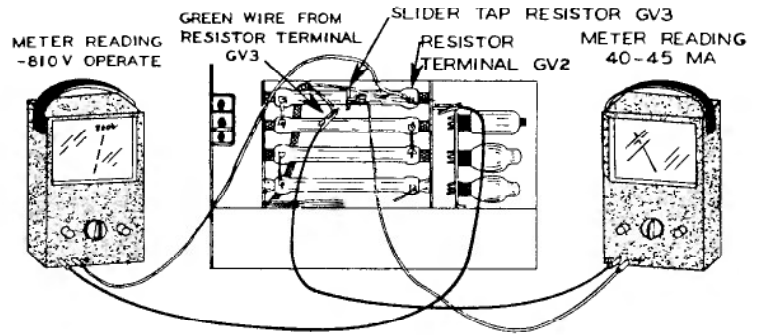

Figure 35B
- ( ) Again referring to test setup shown in Figure 35B, CAREFULLY connect a Volt-Ohm-Milliammeter between chassis ground and screen resistor terminal GV1, using the 1500 volt scale. Disconnecting the wire from the SLIDER on resistor GV, connect another VOM (set at its 150 ma scale) between the slider and the disconnected lead as shown.